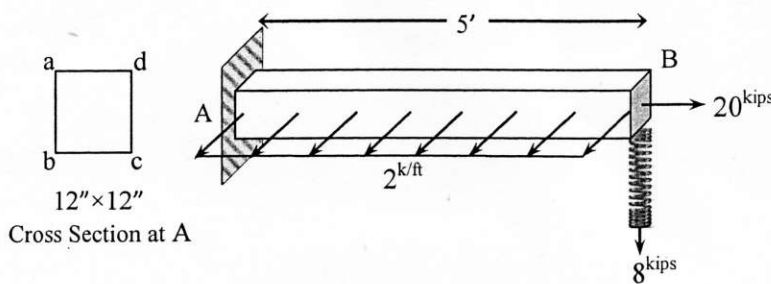

**Figure 1**
1. A compound shaft consisting of a steel segment and an aluminium segment is acted upon by two torques as shown in **Figure 1**. Determine the maximum permissible value of  $T$  subject to the following conditions:  $\tau_{steel} \leq 84 \text{ MPa}$ ,  $\tau_{aluminium} \leq 55 \text{ MPa}$ , and the angle of rotation of the free end is limited to  $6^\circ$ . For steel,  $G = 84 \text{ GPa}$  and for aluminium,  $G = 28 \text{ GPa}$ .